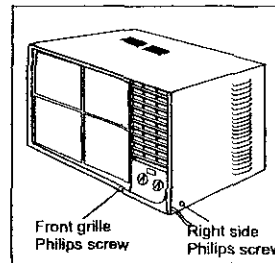

Fig 3
- D. Remove the Philips screw located at the lower (right hand) corner of the front grille and the Philips screws from both sides of the cabinet (Fig 3)